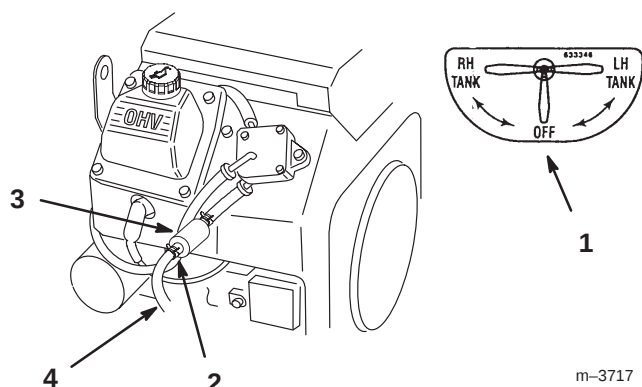

Figure 30
5. Install a new filter and move the hose clamps close to the filter (Fig. 30).
2. Close fuel shut-off valve (Fig. 30).
3. Loosen the hose clamp at the fuel filter and slide it up the fuel line away from the fuel filter (Fig. 30).
4. Pull the fuel line off fuel filter (Fig. 30). Open fuel shut-off valve and allow gasoline to drain into a gas can or drain pan.
5. Install the fuel line onto the fuel filter. Slide the hose clamp close to the fuel filter to secure the fuel line (Fig. 30).